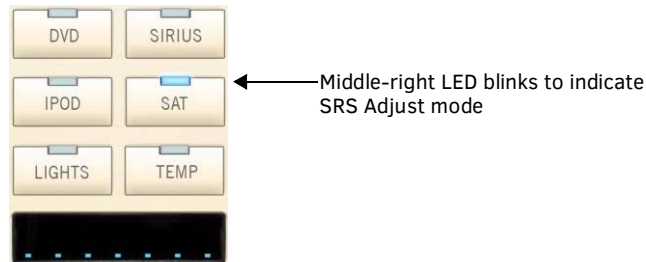

FIG. 49 SRS Adjust Mode
- The **second-row right** LED will blink to indicate that SRS Adjust mode is active (FIG. 49).